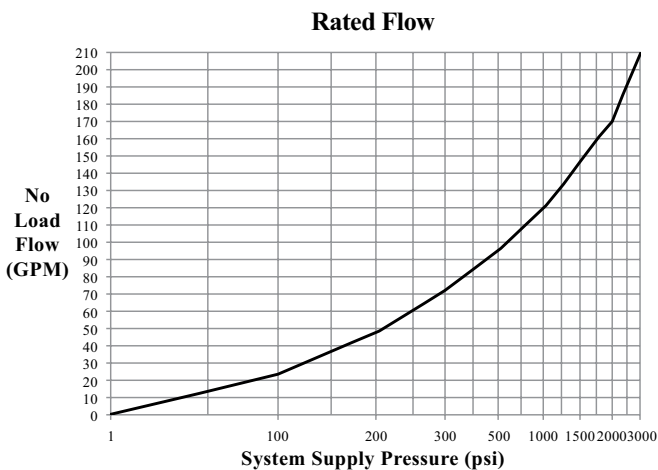

Figure 8: Rated Flow
Flow is directly proportional to the differential pressure across the actuator and varies for each application with spring constants, spring preloads, and stroke length. Figure 8 indicates the expected no-load flow in gallons per minute for a standard TRAC configured with three servos.
The no-load flow is determined by noting the intersection of the supply pressure and the valve of the no-load flow lines. The intersection point is followed to the left margin where the no-load flow is determined. If the valve pressure drops, the valve pressure drop (PV) is substituted for supply pressure and can also be used to determine the valve flow in a loaded system (as evident in Figure 8).
The resulting PV is used in place of the System Supply Pressure and the flow noted on the left margin of Figure 8 becomes the loaded flow capability. Once the loaded flow capability is determined, the actuator volume can be divided by that flow to determine the expected maximum travel rate. Two inches per second or greater is desirable for most turbine control applications.